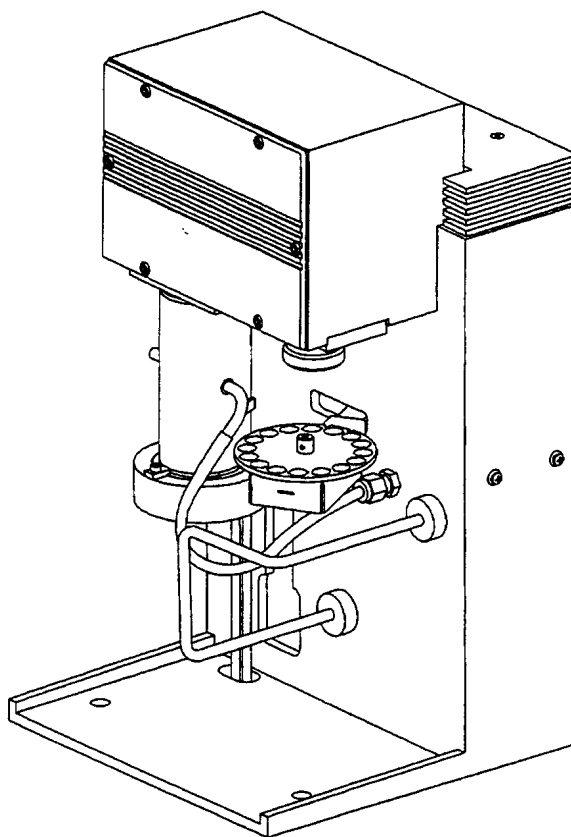

Figure C.1
The TGA Autosampler, known as the Auto TGA, is an accessory to the TA Instruments Thermogravimetric Analyzer (TGA) 2950 CE (see Figure C.1 on the next page). It allows you to place up to 16 samples at one time on the TGA instrument to measure the amount and rate of weight change in a material. Experiments are performed as they normally would be using the TGA—but now you can run samples on a continual basis and keep a log of the results using the Autosampler screens. The six (6) standard TGA pans listed below are used with the Auto TGA: